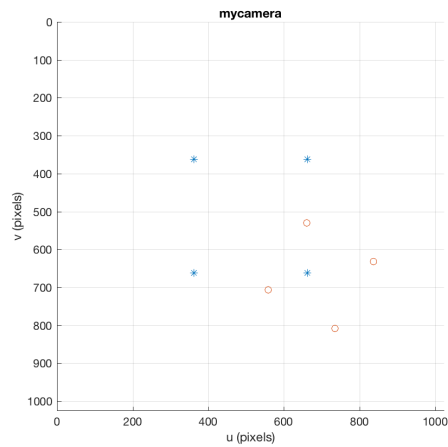

Figure 1. Image View
1.3 Initialise the simulation (Display in 2D image) – Note that the Vision Toolbox already does this plotting for you, if all the 3D points are in the correct 3D location and your camera is correctly located on the end-effector your image view should look like Fig 1